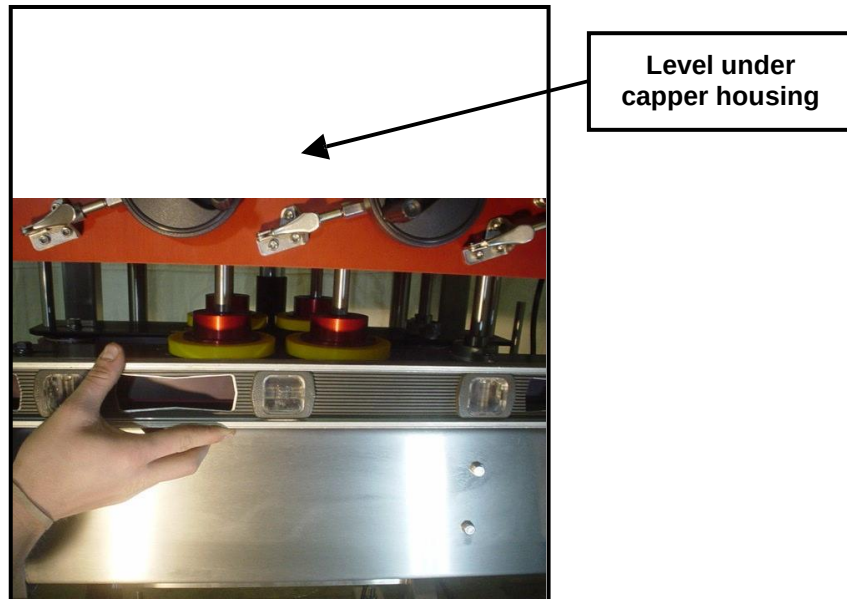

Figure 9. LEVEL THE CAPPER HOUSING FROM FRONT TO BACK.
- 3c.** Place a level from front to back under the capper housing to verify that the capper housing is level from front to back. Refer to Figure 9.